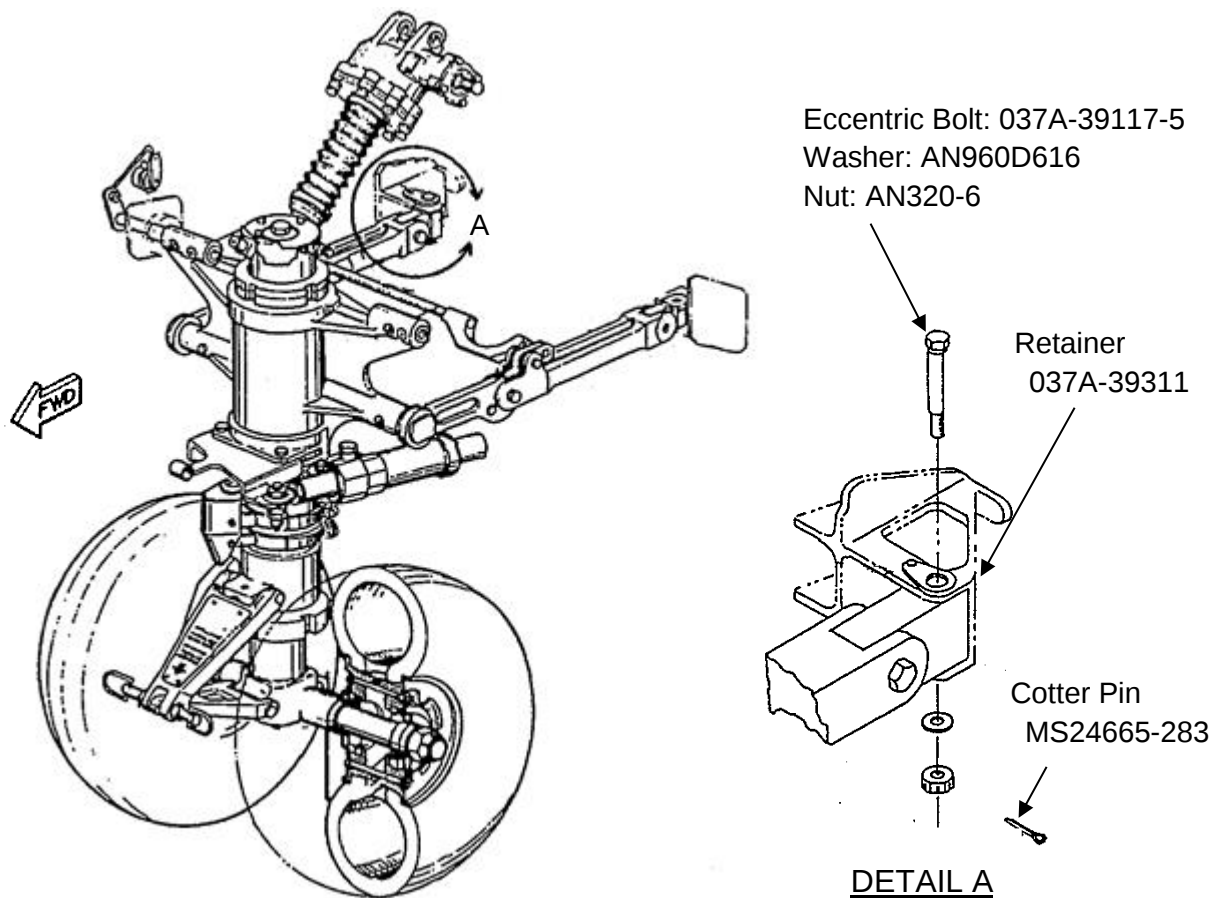

Figure 12: Eccentric Bolt
- (b) Install Eccentric Bolt taking into consideration the aligning mating marks on the bolt head and the bolt retainer. (Figure 12 "A")
- (c) If abnormal popping sound is heard from the Down Locks on aircraft S/N 366SA and up, adjust the Eccentric Bolt in accordance with the applicable MU-2 Maintenance Manual and reapply mark. Tighten the nut attaching to Eccentric Bolt by the torque of maximum 20 in-lbs, install a new cotter pin (MS24665-283).(Figure12 "A")